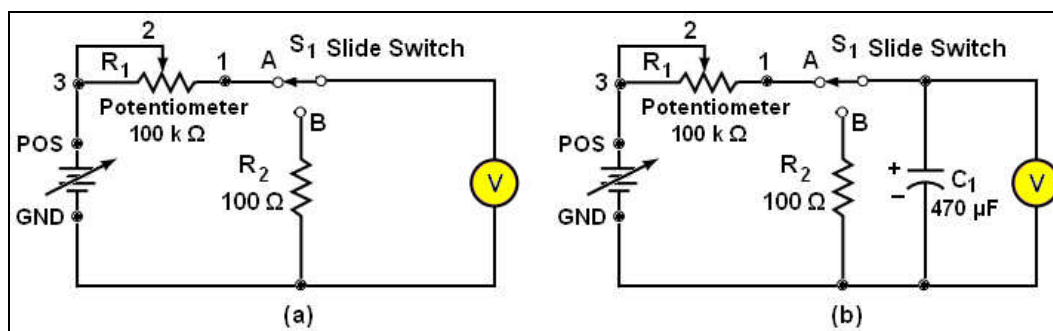

Fig. 2-2 Step 6 and 7
6. Disconnect the circuit in Fig. 2-2 and construct the circuit shown in Fig. 2-2(a). Place switch S_1 in position A. Turn the shaft of the 100 K Ω potentiometer fully-clockwise. Adjust the + voltage control until the meter reads exactly 10 volts.
7. Add the 470- μF capacitor to the circuit (Fig. 2-2(b)). Switch S_1 to position B so that C_1 can completely discharge.